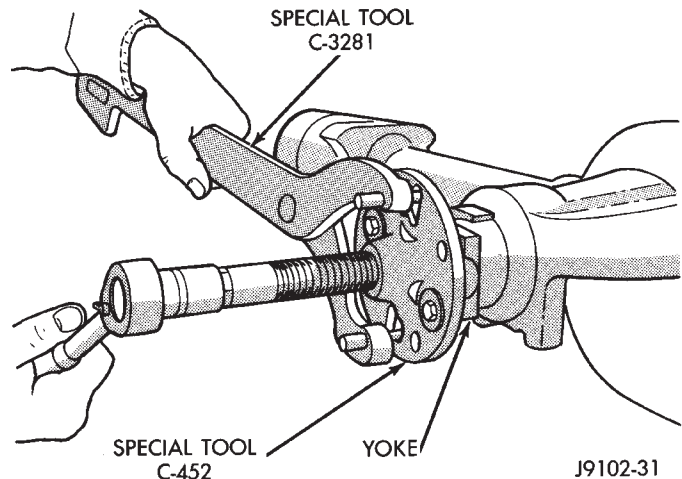

Fig. 7 Pinion Yoke Removal
- (1) Raise and support the vehicle.
- (2) Remove wheel and tire assemblies.
- (3) Remove brake drums. Refer to Group 5, Brakes, for proper procedures.
- (4) Mark the propeller shaft and pinion yoke for installation reference.
- (5) Remove the propeller shaft from the yoke.
- (6) Rotate the pinion gear three or four times.
(7) Measure the amount of torque necessary to rotate the pinion gear with a (in. lbs.) dial-type torque wrench. Record the torque reading for installation reference.
(8) Using Holder 6958 to hold the pinion yoke, remove the pinion nut and washer.
(9) Use Remover C-452 and Wrench C-3281 to remove the pinion yoke (Fig. 7).